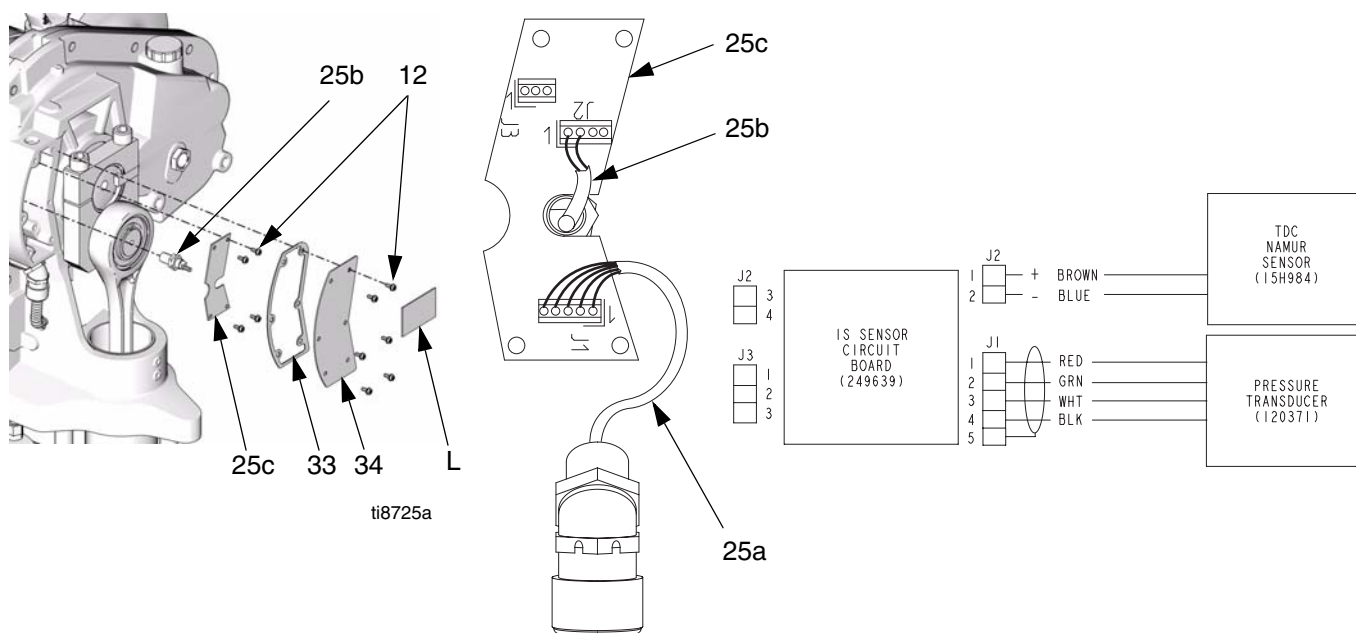

FIG. 6. Circuit Board
4. Remove two screws (12) and the cover (32).
5. See FIG. 6. Remove six screws (12), the circuit board cover (34), and the gasket (33).
6. Disconnect the transducer cable (25a) from J1 on the circuit board (25c). See FIG. 6 and the **Electrical Diagrams**, page 10.
9. Remove four screws (12) and the circuit board (25c).
10. Install the new circuit board (25c) using four screws (12).
13. Thread the transducer's cable (25a) through the adapter (42) and conduit (44). Reconnect the cable to J1 on the circuit board (25c). See FIG. 6.
15. See FIG. 6. Connect the TDC cable (25b) to J2 on the circuit board (25c).
17. Install the new gasket (33), the cover (34), and six screws (12).
18. Remove the old label (L) from the circuit board cover (34). Attach the new label (L) to the cover.
19. Enter calibration information found on the new label (L) into the VFD. See **Pressure Transducer Calibration Procedure**.
20. Reinstall the cover (32) with two screws (12).
6. Disconnect the transducer cable (25a) from J1 on the circuit board (25c). See FIG. 6, page 15.